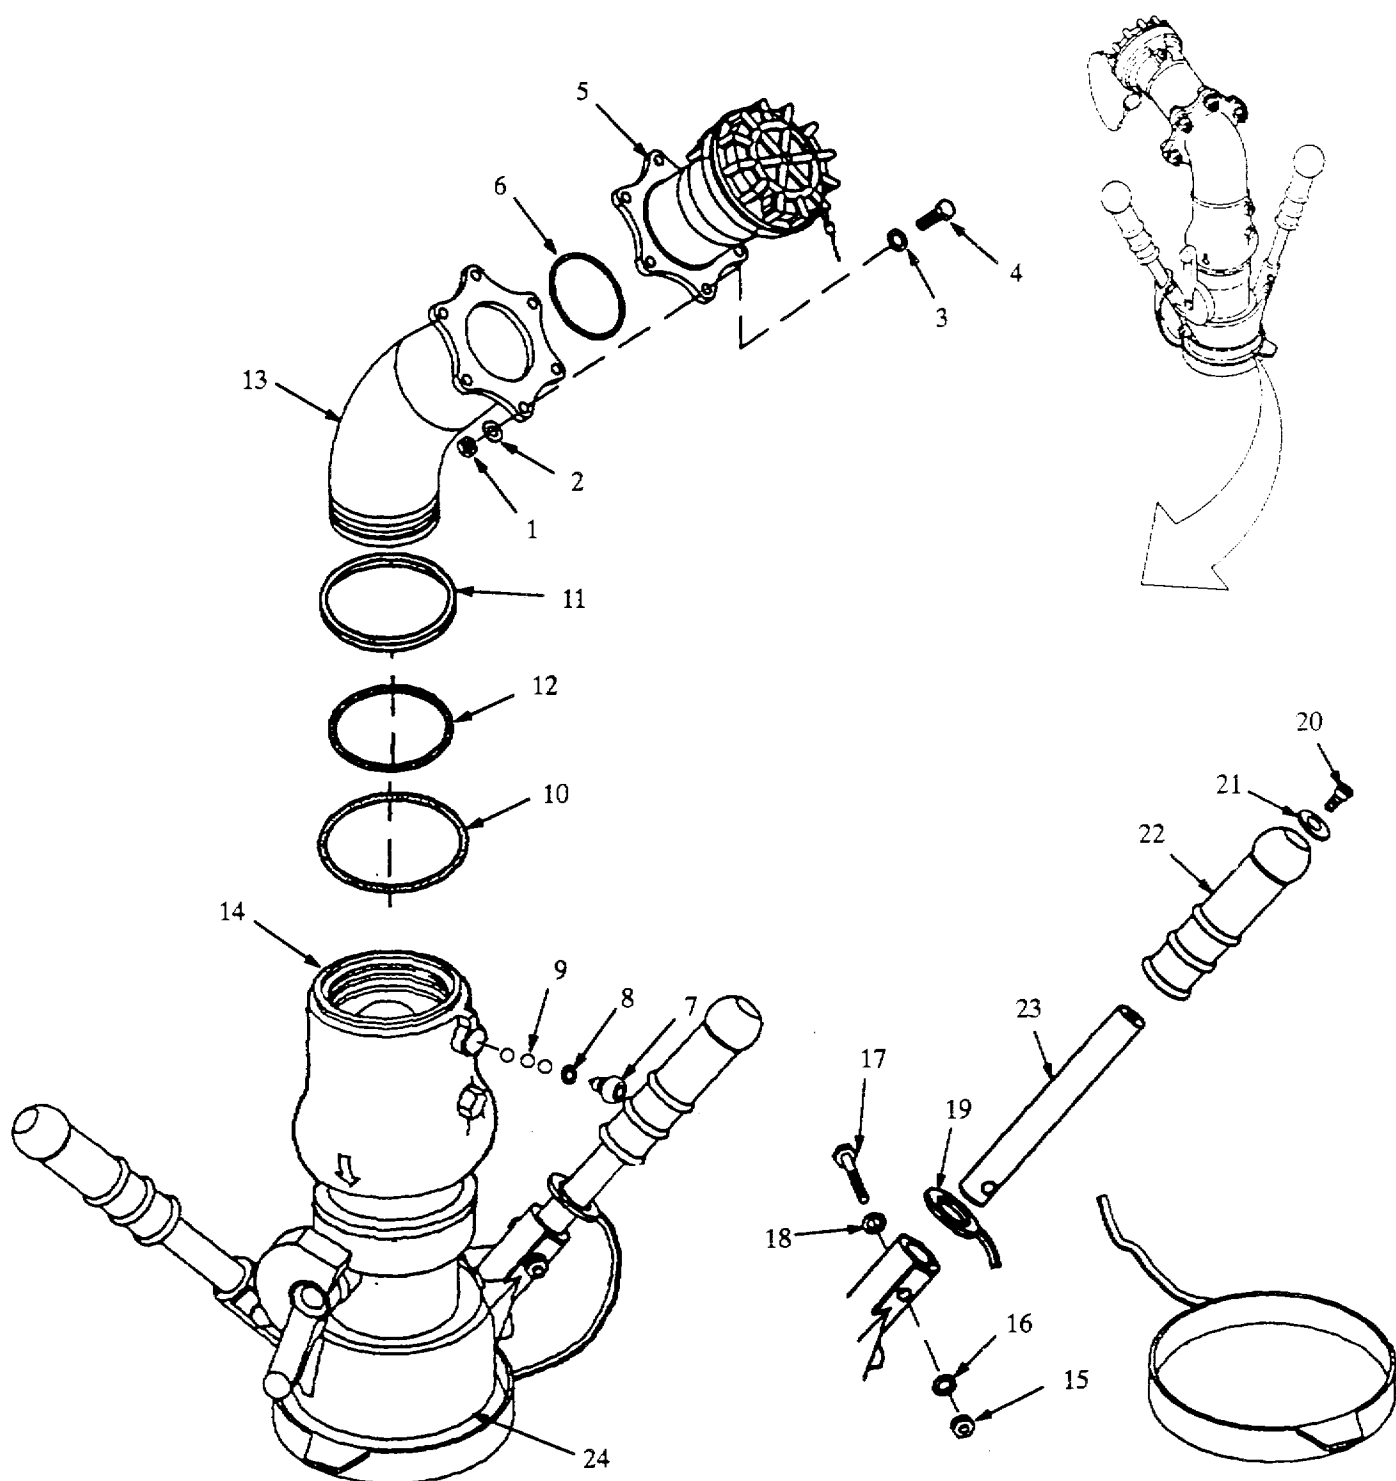

Figure 4-1A. Pressure Fuel Servicing Nozzle (D1) Repair.
- a. Disassembly. Refer to figure 4-1A.
- (1) Remove six self locking nuts (1), flat washers (2), screws (3), and flat washers (4).
- (2) Separate coupling adapter (5) from inlet elbow (13), and remove preformed packing (6).
- (3) Remove screw (7) and attached preformed packing (8) from regulator (14).
- (4) Position regulator (14) so that opening for balls (9) is pointing down.
- (5) Rotate inlet elbow (13) back and forth on regulator (14) until 39 balls (9) are removed.
**c. Inspection.** Refer to figure 4-1A.
- (1) Inspect inlet elbow (13) for cracks and corrosion. Check for scratches and abrasion at all sealing surfaces.
- (2) Inspect regulator (14) for cracks, corrosion and damaged or missing parts.
- (3) Inspect coupling adapter (5) for cracks, missing components and corrosion.
- (4) Inspect collar (24) for cracks and corrosion.
**d. Repair.** Replace damaged or defective components. Replace all mandatory replacement parts. Repair non-valved dry break coupling on coupling adapter (para 4-14).**e. Assembly.** Refer to figure 4-1A.**NOTE**
- (1) Place handle (23) in vise.
- (2) Push grip (22) onto handle (23).
- (3) Install flat washer (21) and self locking socket screw (20) in grip (22).
- (4) Slide cap (19) onto handle (23).
- (5) Remove handle (23) from vise and position in collar (24).
- (6) Install flat washer (18), screw (17), flat washer (16) and self locking nut (15) in collar (24).
- (7) Repeat steps (1) through (6), except step (4), for other handle.
- (8) Apply a light coat of silicone compound to preformed packings (6, 8, 10 and 12) to aid installation.